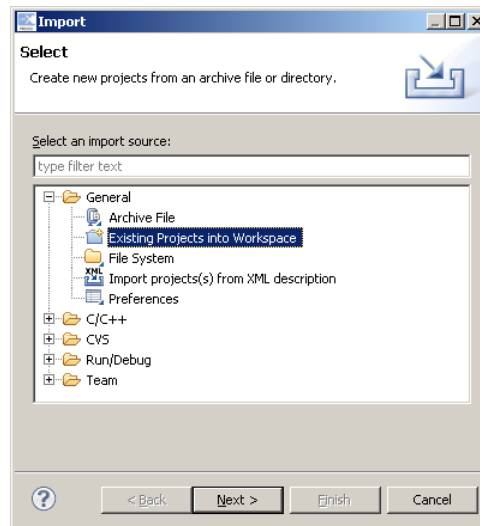

Figure 1. Selecting the option to import existing projects into the workspace
3. Select 'Import' from the 'File' menu. The dialog box shown in Figure 1 will open.